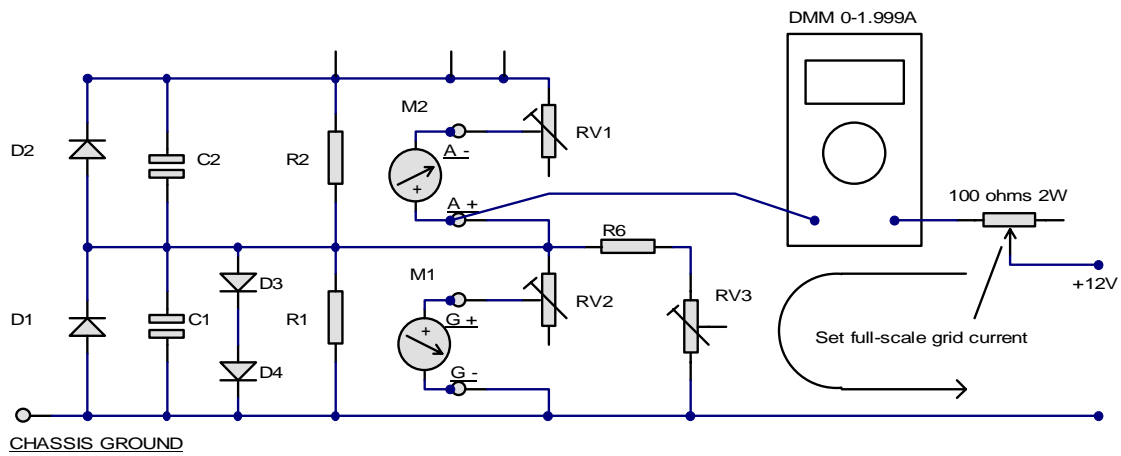

Figure 9: Calibration setup for grid current meter. Alternatively you can use a variable voltage/current power supply.
2. Connect a 100 $\Omega$  2W variable resistor to an external +12V DC supply, and in series with this connect an accurate current meter to the A+ terminal (see Figure 9, next page). This will allow you to pass a known current through the grid meter shunt R1. Alternatively you can use a variable voltage/current power supply.
1. Reconnect the temporary grid current setup as shown in Figure 9. Set RV3 to mid-travel.